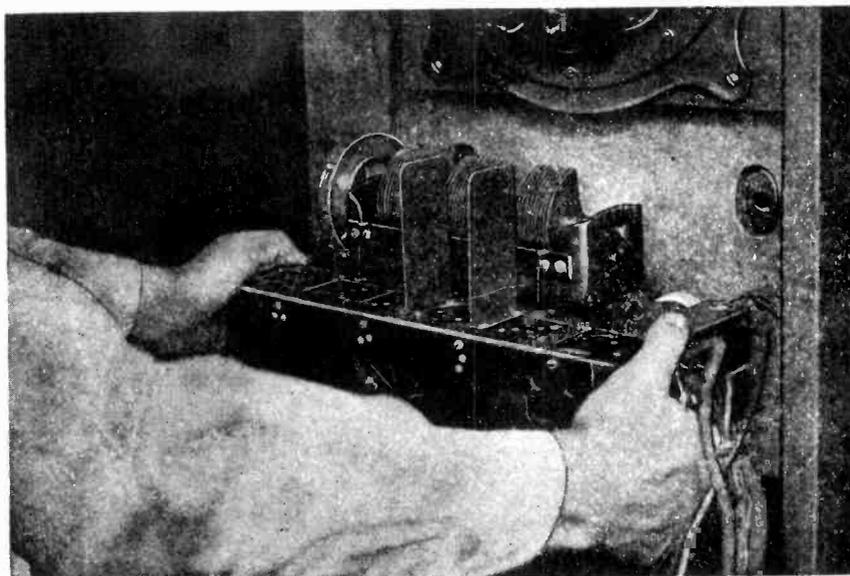

Figure 20—Removing receiver assembly from cabinet
- (h) Remove the four screws that hold the receiver assembly on its shelf. It may now be lifted clear and placed in a position convenient for work (Figure 20). The parts are readily accessible and any repair or replacement may be easily made. The correct connections to all parts are shown in Figure 15.